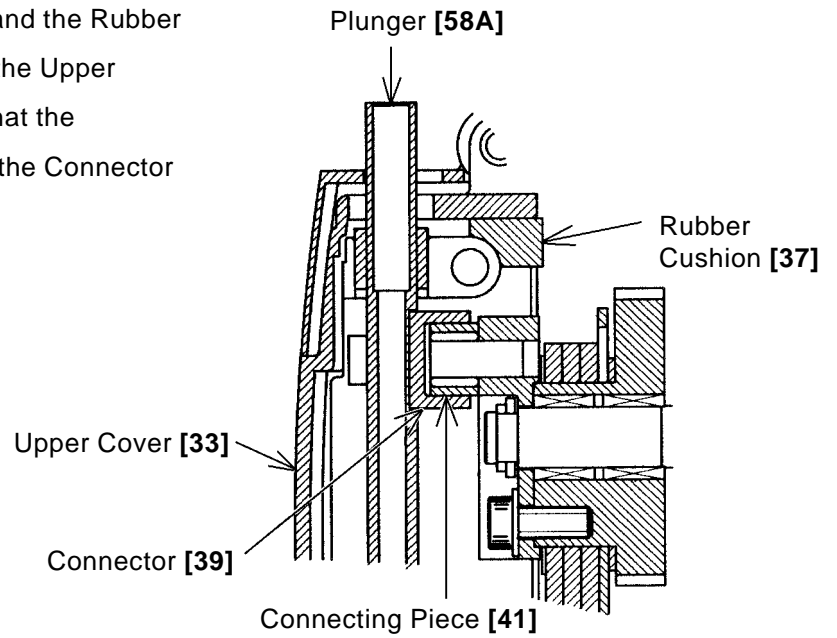

Fig. 17
- (7) After confirming that the Packing [40] and the Rubber Cushion [37] are properly installed, fit the Upper Cover [33] to the Gear Cover [51] so that the Connecting Piece [41] properly enters the Connector [39] (Fig. 17).